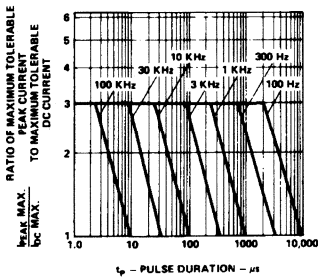

Figure 5. Maximum Tolerable Peak Current vs. Pulse Duration. ( $I_{DC}$  MAX as per MAX Ratings).
- See Figure 5 (Red/Orange), 10 (Yellow), or 15 (Green) to establish pulsed operating conditions.